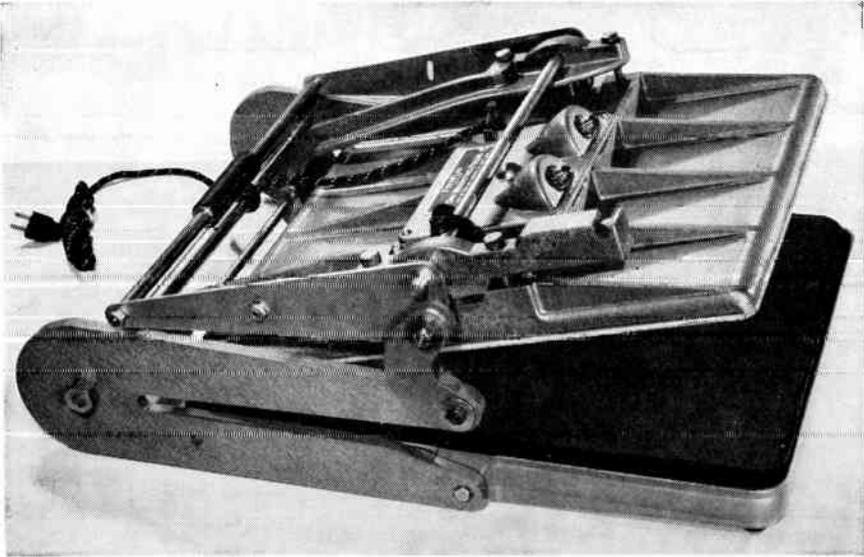

Fig. 9-25. Fotoflat dry-mounting press.
**Dry mounting.** This is probably the best method of mounting. It is done in a hot press with a sheet of heat-seal adhesive sandwiched in between paper and board. Sheets of dry-mounting tissue are also sold separately, and one is supposed to apply the heat by ironing the picture on with an electric iron; but this is slow and rather difficult. The Fotoflat dry-mounting press is in use in several television studios. It heats up to around 225°F and makes a quick and perfect job. The Fotoflat heat-seal adhesive will soften if heat is applied again; so it is easy to remove mounted pictures by putting them back into the press. The same thing may happen under the hot lights of a balop, however; if your balop operates at a high temperature, none of the mounting processes so far described can be recommended (Fig. 9-25).